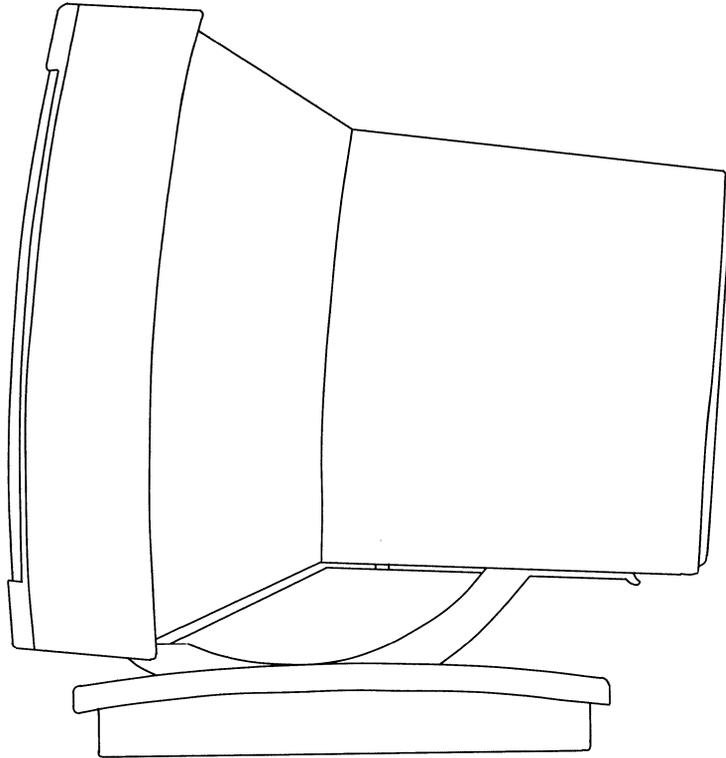

Figure 2-16. Display Monitor/Base Unit Assembly
5. Turn the base unit/display monitor assembly right side up and place it on a flat surface where it will be located. Figure 2-16 shows the assembled unit.